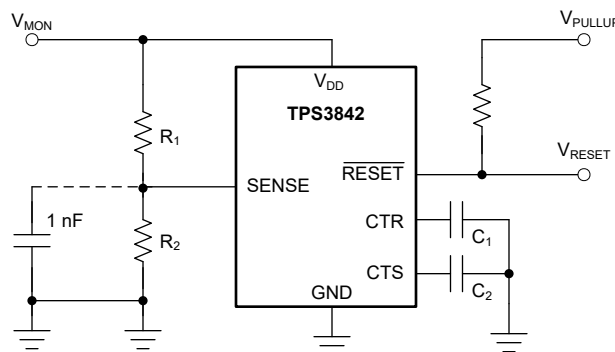

Figure 7-3. Using the TPS3842A011DRLR to Monitor a User-Defined Threshold Voltage
Figure 7-3 illustrates an example of how to adjust the voltage threshold with external resistor dividers. The resistors can be calculated depending on the desired voltage threshold and device part number. TI recommends using the 700mV threshold option when using an external resistor divider. The variant bypasses the internal resistor ladder for higher accuracy when using external resistors.
For example, consider a 12V rail, V_{MON} , being monitored for undervoltage (UV) using of the TPS3842A011DRLR variant, as shown in Figure 7-3. The monitored UV threshold, denoted as V_{MON-} , is the desired voltage where the device asserts the reset. For this example $V_{MON-} = 5.8V$. To assert an undervoltage reset the voltage at the sense pin, V_{SENSE} , needs to be equal to the input threshold negative, V_{ITN} . For this example variant $V_{SENSE} = V_{ITN} = 0.7V$. Using R_1 and R_2 the correlation between V_{MON-} and V_{SENSE} can be seen in Equation 1. Assuming $R_1 = 100k\Omega$, and R_2 can be calculated as $R_2 = 13.7k\Omega$.